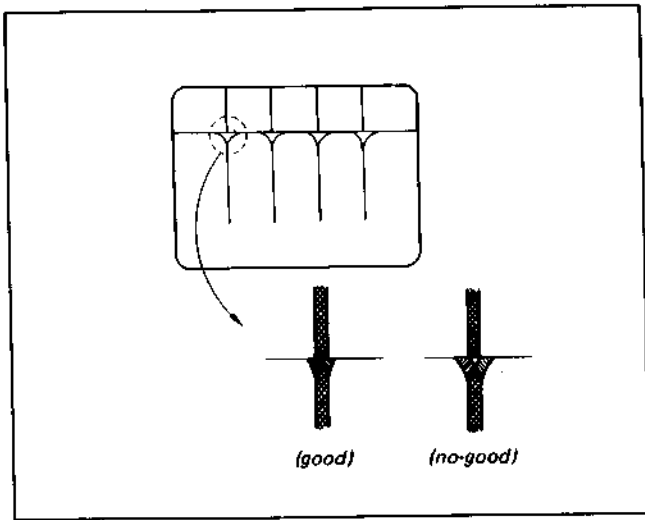
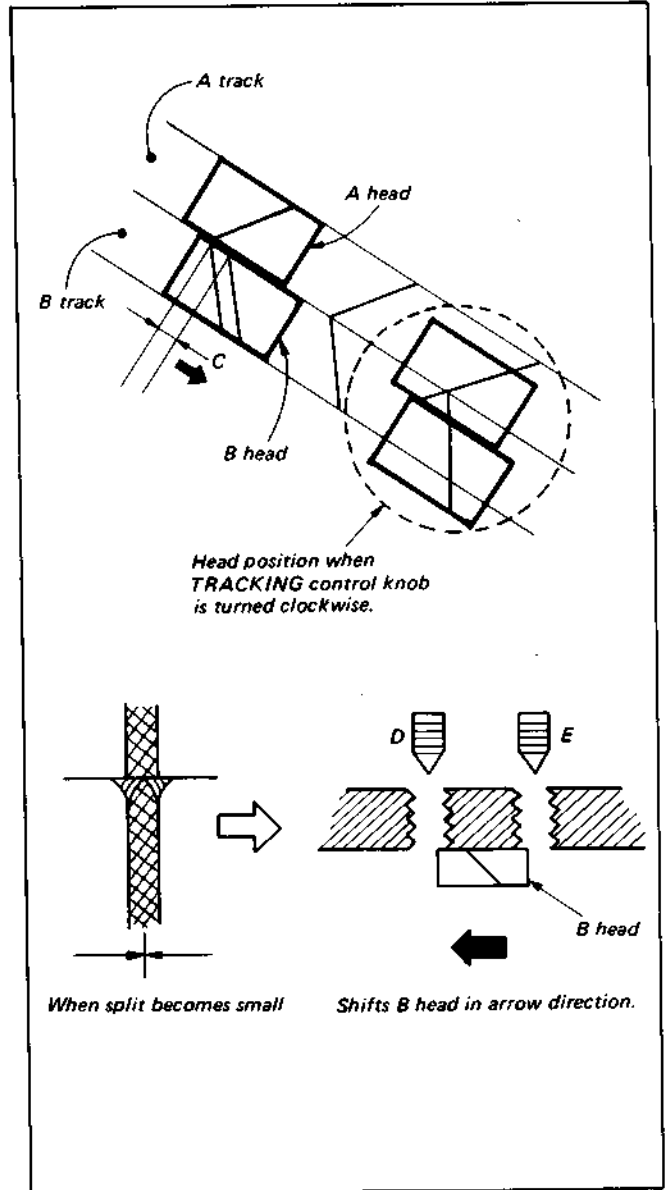
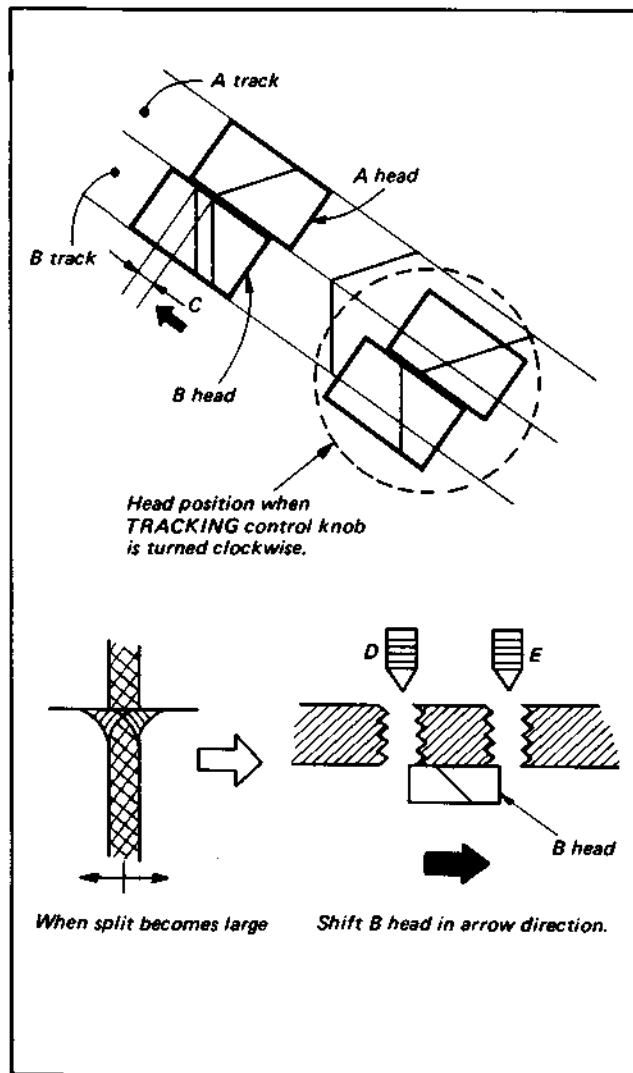

Fig. 3-59.
Fig. 3-61.
Fig. 3-62.
- The judgment of the video head dihedral must be performed in the condition that the monoscope signal segment of the alignment tape (KR5-1H or 2H) is played back and the TRACKING control knob is set to the center detent position. (See Fig. 3-59.)
- 1) When the split becomes small for the clockwise turn of the TRACKING control knob, the B head shifts by C in the arrow direction as shown in Fig. 3-61 and traces the magnetic pattern on the tape. The adjusting screw in adjustment hole E shown in the figure must be tightened further to shift the B head in the left direction until the good dihedral shown in Fig. 3-59 is obtained. Set the TRACKING control knob to the center detent point.
- 2) When the split becomes large for the clockwise turn of the TRACKING control knob, the B head shifts by C in the arrow direction as shown in Fig. 3-62 and traces the magnetic pattern. The adjusting screw in adjustment hole D shown in the figure must be tightened further to shift the B head in the right direction until the good dihedron shown in Fig. 3-59 is obtained. Set the TRACKING control knob to the center detent point.